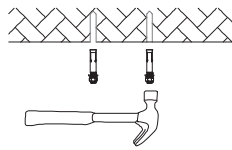

Figure 2-1
2. Use a hammer to put the expansion screws into the holes (Figure 2-1).